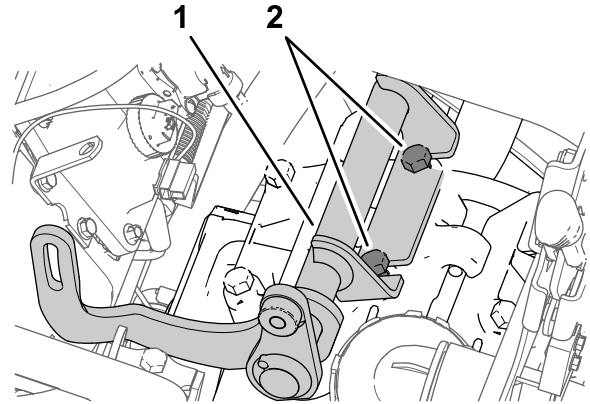

Figure 179
2. Align the alternator bracket between the bolts that you loosened and as shown in step 1 and the pump head Figure 179.